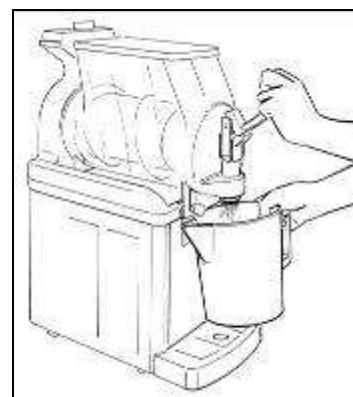

Fig. 13
- Empty the bowl and repeat the same operations until the coming out water is clear (fig.13).